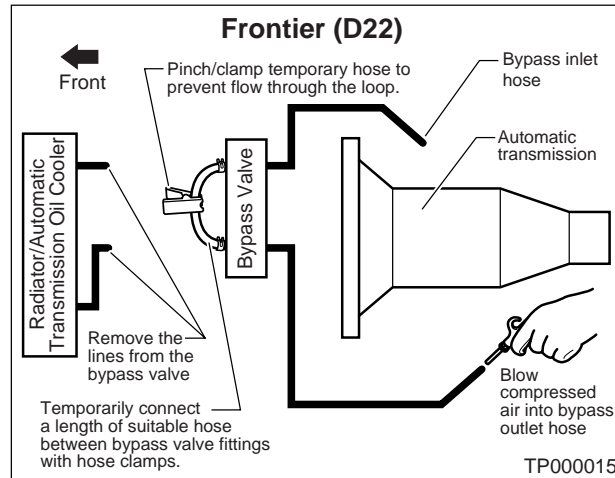

Figure 6
- For Frontier (D22) w/bypass valve, remove the oil cooler inlet and outlet rubber hoses from the bypass valve fittings (see Figure 6 on page 6)
2. Remove the lines from the transmission and allow the oil to drain from the lines (see Figure 6).
3. Remove the lines from the bypass valve (see Figure 6).
4. Use hose clamps and temporarily connect a length of suitable hose between the bypass valve fittings that go to the oil cooler (see Figure 6).
5. Pinch/clamp the temporary hose to prevent flow through the loop (see Figure 6).
7. Blow compressed air regulated to 5-9 kg/cm2 (70 – 130 PSI) into the outlet for 10 second intervals, three times (see Figure 6).